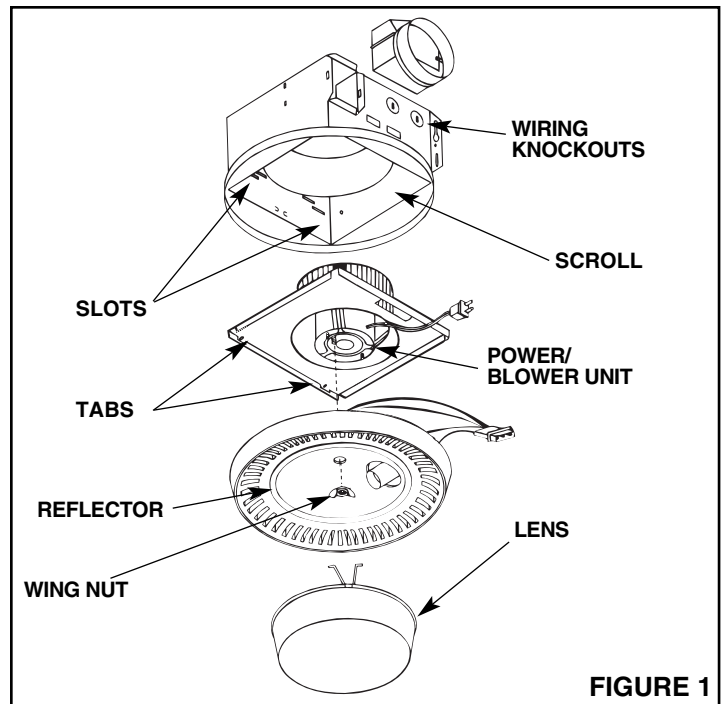

FIGURE 1
- Refer to Figure 1.** Remove power unit/blower assembly from housing.
- Refer to Figure 1.** Place duct collar over flanges at discharge opening of fan. Secure collar by snapping tabs into slots in flanges.
1. Refer to Figure 1. Place power/blower unit into housing so that mounting plate's tabs insert into slots in housing.